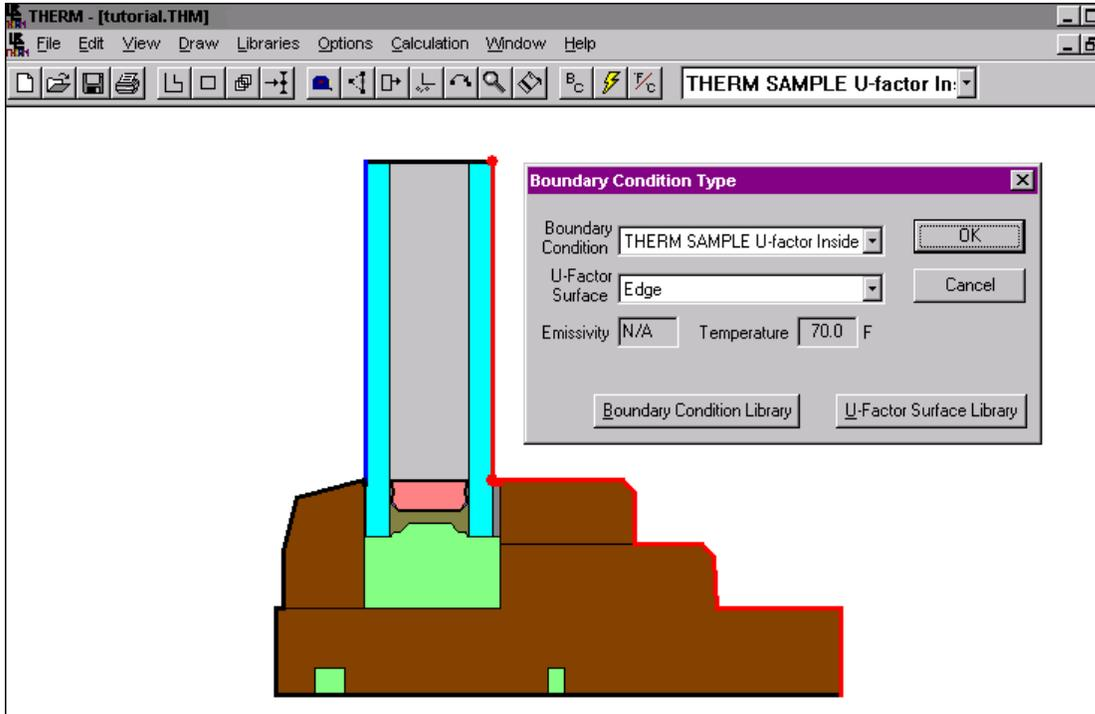

Figure 8-49. You can view the boundary condition definitions for the glazing system by double-clicking the left mouse button on the glazing system boundary.
- To view the boundary conditions automatically defined for the imported WINDOW glazing system, place the mouse cursor on the inside boundary segment of the glazing system, and double-click the left mouse cursor. The **Boundary Condition Type** dialog box will appear. **THERM SAMPLE: Inside U-factor** will already be selected for the **Boundary Condition**, and **Edge** for the **U-Factor Surface**, as shown in Figure 8-49. Press the OK button.